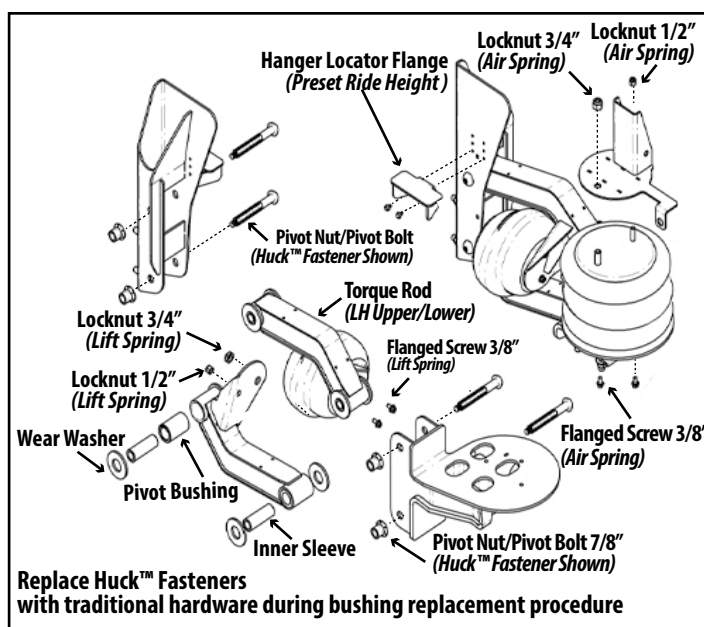

Figure 23. Bushing replacement kit includes enough wear washers and traditional hardware to replace the Huck™ fasteners at eight pivot connections.
1. Remove pivot hardware by cutting/grinding away the Huck® Collar. Discard pivot hardware (Figure 23).